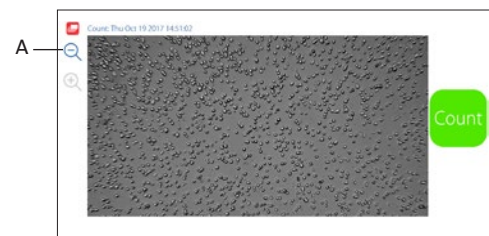

Figure 17. Live screen of the CytoSMART™ Cloud App
After placing the loaded counting chamber on the Corning® Cell Counter, you can see an image of the cell sample in the live screen (Figure 17).
2. Check the image to see if the focus is correct – correct it if needed – and select “Count” from the start screen (Figure 17).